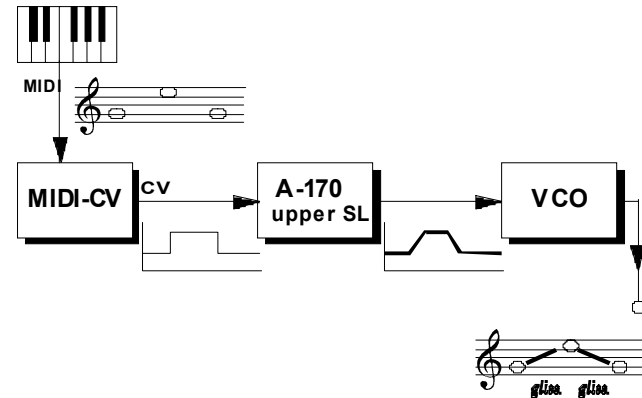

Fig. 2: The A-170 as a portamento generator
The example in Fig. 2 shows the A-170 (**upper SL !**) as a **portamento generator**. With this patch, independently controllable portamento is created every time a note is played. Use control ① to set the portamento time.